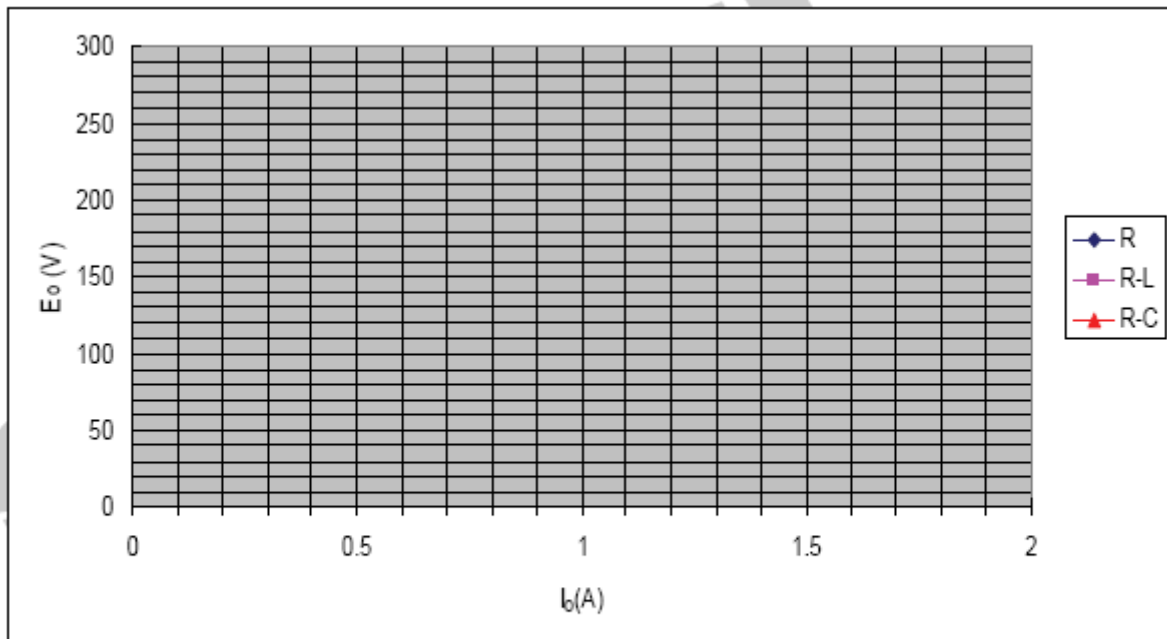

Fig. 15-4-3 The E_o vs I_o curves
13. Using the results of Tables 15-4-1 through 15-4-3, plot the E_o vs I_o curves on the graph of Fig. 15-4-3. ®